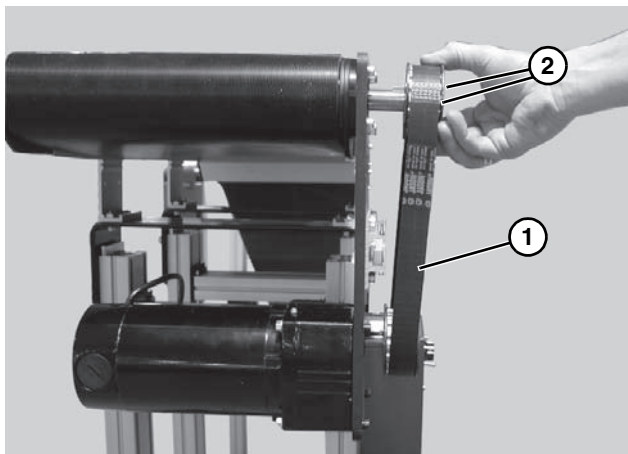

Figure 15
3. Remove timing belt (**Figure 15, item 1**).
*If timing belt does not slide over pulley flange, loosen driven pulley taper-lock screws (**Figure 15, item 2**) and remove pulley with belt (**Figure 15, item 1**). For re-installation, see steps 7 thru 9 beginning on page 7.*